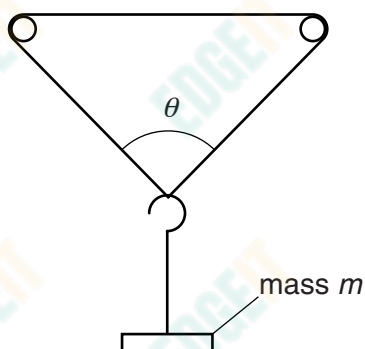

Fig. 2.2
- (c) (i) Suspend the mass hanger from the centre of the lower part of the rubber band as shown in Fig. 2.2.
- (ii) Measure and record the angle θ as shown in Fig. 2.2.